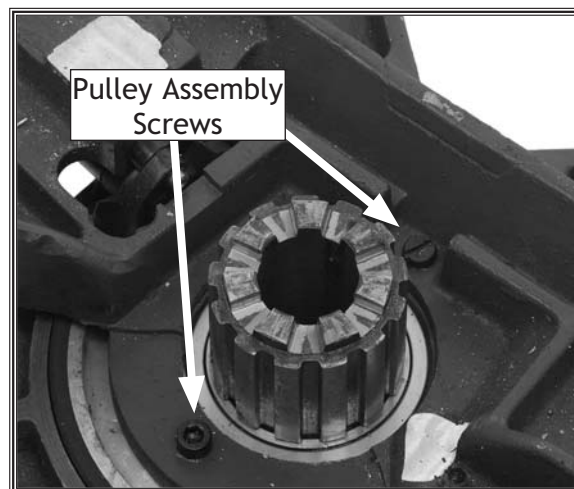

Figure 73. Pulley removal.
2. Remove the pulley assembly by removing the screws shown in **Figure 73**.